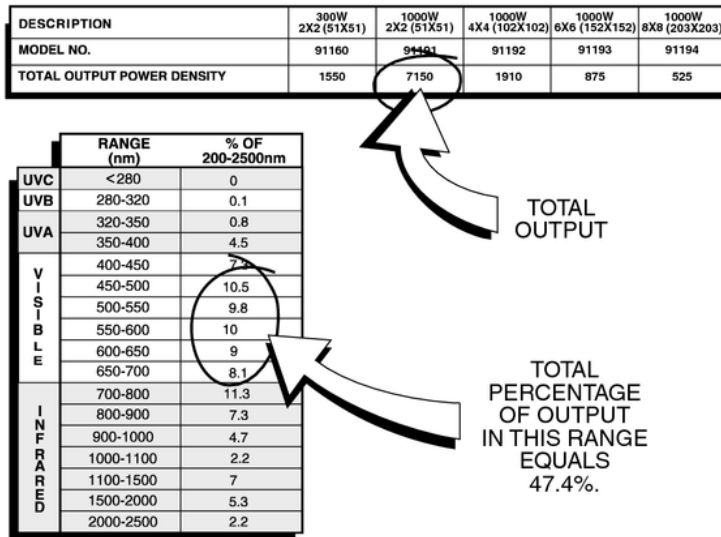

Fig. 2 Example of the data we show for each solar simulator.
Step 1: Find what fraction of the output is in the specified range. (Fig. 2 shows the tabled data.) The total percentage of the output in this range = 47.4%
The top table in Fig. 2 shows the total output power density to be 7150 W m-2 for this model. Therefore the irradiance for the 450 - 700 nm range is: **0.474 x 7150 = 3389 W m-2**
The top table in Fig. 2 shows the total output power density to be 7150 W m-2 for this model. Therefore the irradiance for the 450 - 700 nm range is: